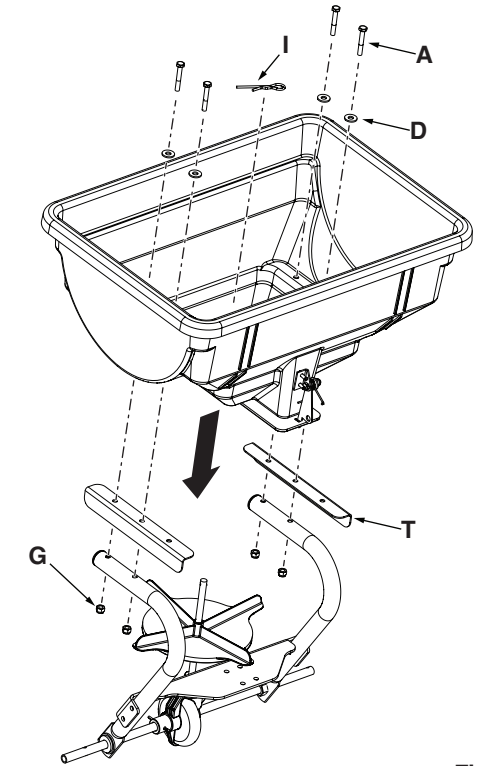

Figure 6
STEP 6: (SEE FIGURE 6)
- Attach the hopper to the frame and support angles (T) using four 1/4 x 1-3/4" hex bolts (A), 5/16" washers (D), and 1/4" nylock nuts (G). Guide the impeller shaft through the hole in the flow plate and hopper. Insert the hairpin agitator (I) through the impeller shaft once inside the hopper. Tighten hardware.